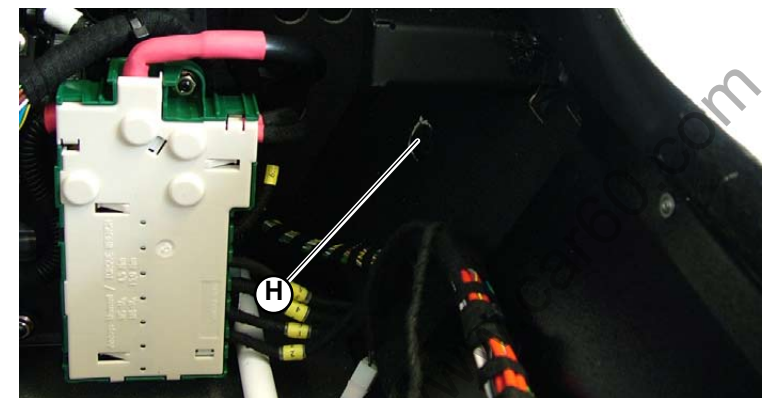

Fig.5
9. Tighten the screws securing the body side member (**H-Fig.5**) to the car using the free space created by the rear seat cover.